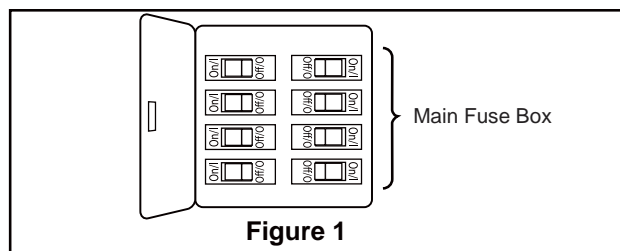
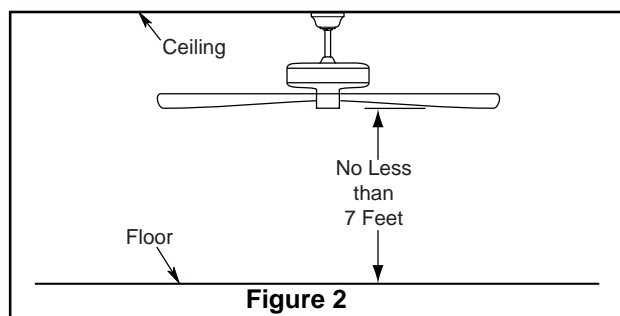

Figure 1
Figure 2
Your new ceiling fan will require a grounded electrical supply line of 120 volts AC, 60 HZ, 15 Amp Circuit. Electrical code requires use of a fan-rated outlet box to support the extra weight and motion associated with a ceiling fan. A fan-rated box will be labeled as such and typically supports up to a 70lbs ceiling fan. Fan-Rated Outlet Boxes vary in ratings and design. Ensure the ratings of your ceiling fan outlet box meet the requirements for the ceiling fan being installed. Figure 1, Figure 2 and Figure 3 depicts different structural configurations that may be used for mounting the outlet box.
Low-profile use (Figure 1)
Deep-profile use (Figure 2)
- 1. Remove the hanger ball portion from the downrod/hanger ball assembly by loosening the set screw in the hanger ball until the ball falls freely down the downrod. Remove the pin from the downrod, then remove the hanger ball. Retain the pin and hanger ball for reinstallation in Step 6. (Figure 1)
- 2. Remove the hairpin clip and clevis pin from the bottom of the downrod. Retain the pin and clip for reinstallation in Step 4. (Figure 2)
To avoid possible fire or shock, be sure electricity is turned off at the main fuse box before hanging. (Figure 1)
The fan must be hung with at least 7' of clearance from floor to blades. (Figure 2)
1. To set the code on receiver unit, slide dip switches to the same positions as set on the remote. (Figure 1)
To avoid possible electrical shock, be sure electricity is turned off at the main fuse box before wiring (Figure 2).
1. Position the blade over the blade holder with threaded posts showing. Make sure the bottom edge of the blade is fully seated against the blade holder. With a screwdriver tighten 3/16"-24 serrated head screws and flat washers to secure the blade to the blade holder. (Figure 1)
- 2. Secure the blade holders to the motor support using the 1/4"-20 screws through the holes located on the bottom of the motor support. (Figure 2)
- 1. Remove one of the three screws in the support bracket at the bottom of the motor assembly. Retain the screw for later and slightly loosen the remaining two screws. (Figure 1)
- 2. Assemble the light plate assembly to the support bracket using the two key slots in the light plate assembly. Replace the previously removed screw and securely tighten all three screws. (Figure 2)
- 1. IMPORTANT:** Using a full range dimmer switch (not included) to control fan speed will damage the fan. To reduce the risk of fire or electrical shock, do not use a full range dimmer switch to control the fan speed. (Figure 1)
- 2.** Restore electrical power to the outlet box by turning the electricity on at the main fuse box. (Figure 2)